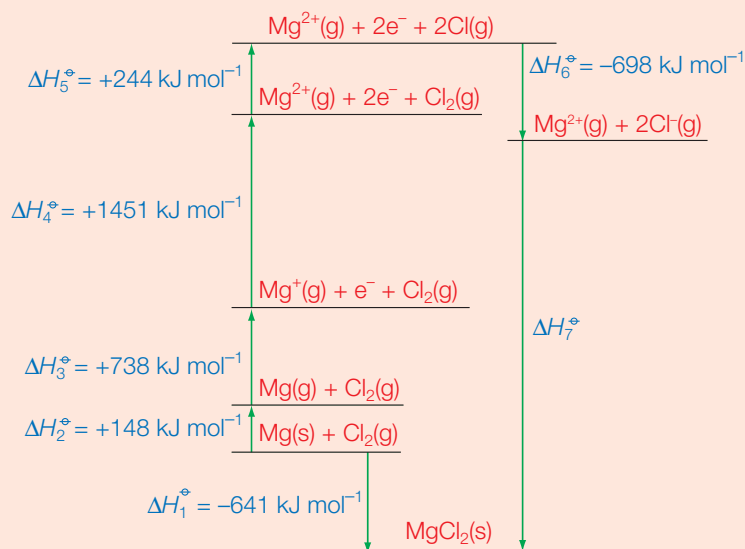

Figure 13.9 ▲
- 14 Look carefully at Figure 13.9, which is a Born–Haber cycle for magnesium chloride.